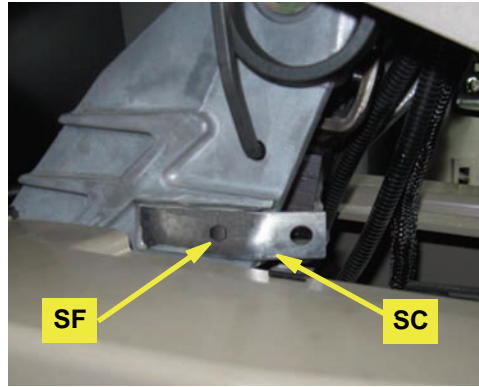

Figure 2b: Installed switch bracket
- b. Using hardware **SF**, install steering wheel switch bracket **SC** (Figure 2b).